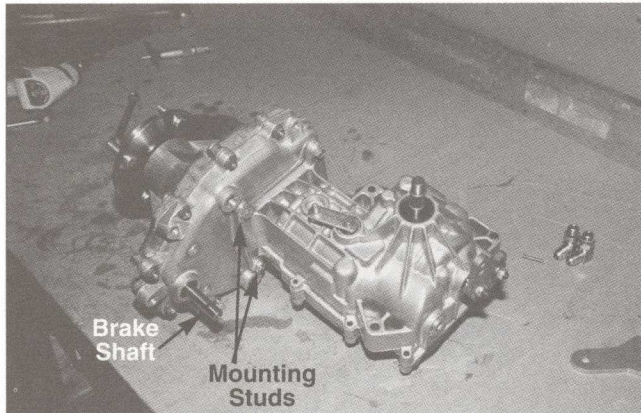

FIGURE 34.
34. Align the studs with the transmission, and be careful not to push the studs into the transmission, mate the two halves together. See figure 34.